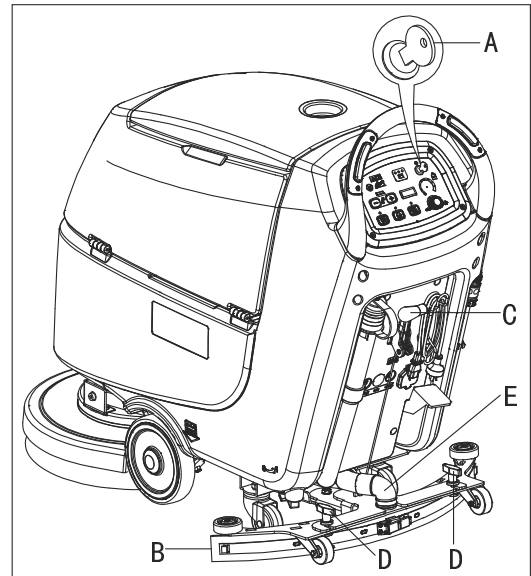
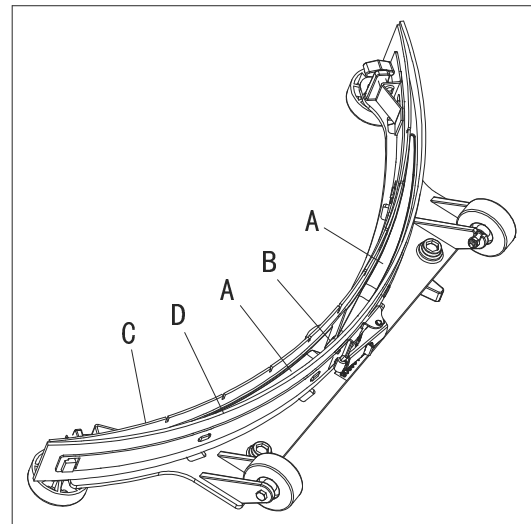

Figure 19
Figure 20
2. Turn the ignition key (A, Figure. 19) to "0".
3. Lower the squeegee (B) with the lever (C).
4. Loosen the knobs (D) and remove the squeegee (B).
5. Disconnect the vacuum hose (E) from the squeegee.
6. Clean the steel or the aluminum squeegee (Figure. 20). Clean the compartments (A) and the hole (B) especially. Check the front blade (C) and the rear blade (D) for integrity, cuts and tears; if necessary replace them (see the procedure in the following paragraph).